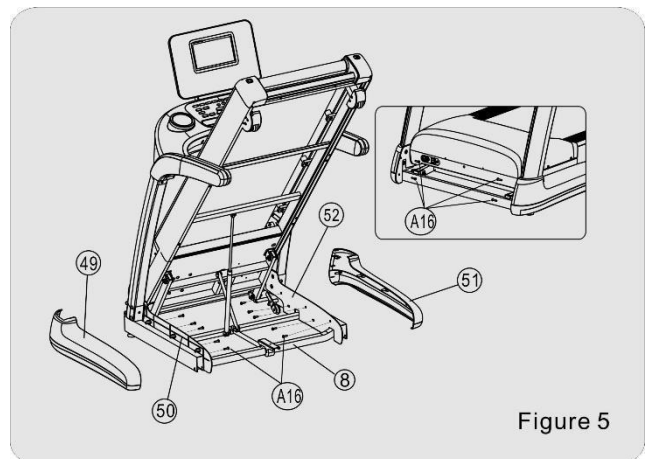

Figure 5
- Folding frame, Install left foot cover 2 (50) to inside of base support (8), then put left foot cover 1 (49) with left foot cover 2 (50) merge one set, using 5pcs Crosshead self-lock bolt ST4X16(A16) inside to tighten.
- Install Right foot cover 2 (52) to inside of base support (8), then put right foot cover 1 (51) with right foot cover 2 (52) merge one set, using 5pcs Crosshead self-lock bolt ST4X16(A16) inside to tighten.(see figure 5)